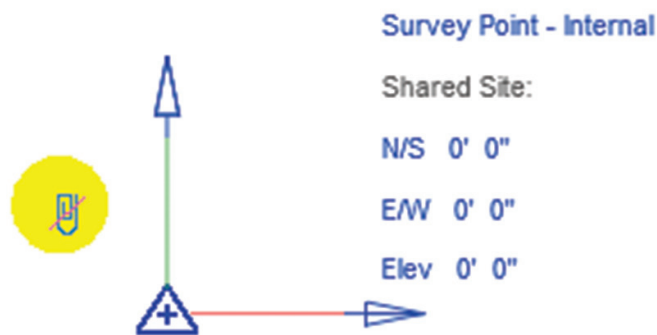

Figure 5
- a. Click on the paperclip icon to “unclip” the Survey Point (see Figure 5).